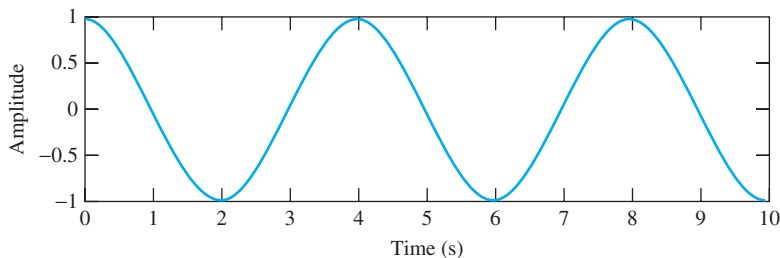
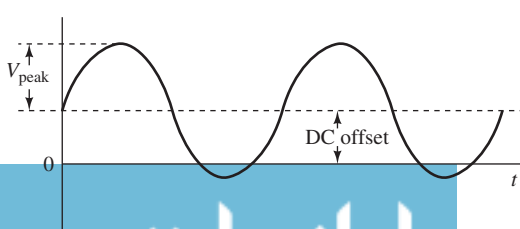

FIGURE 14.10 A sinusoid with $B = 0$.
FIGURE 14.11 DC offset of a sinusoid ($B > 0$).
- B = DC offset; if $B = 0$, then the sinusoid will be balanced with respect to the x -axis (see Figure 14.10), if $B > 0$, the sinusoid will be shifted upward (see Figure 14.11).
The parameters introduced in Equation (14.15) are illustrated in Figures 14.10 to 14.12. Typically, in the sinusoid of Figure 14.10, the amplitude of the sinusoid is 1, the period is 4 s; thus, the frequency is 0.25 Hz, the phase is zero, and the DC offset is zero. In Figure 14.11, V_{peak} is the amplitude, the phase is 0° , and there is a nonzero DC offset.